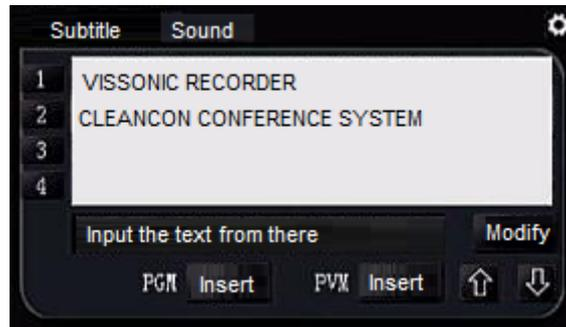

Figure 24 Insert Subtitle
1)Subtitle- As shown in Figure 24, in the top right corner of the subtitles settings , we can firstly edit the text and generate subtitle list, and can pre-set the font capitalization, background color, font color, soft subtitles, hard subtitles and so on. In the subtitle list, select the subtitles to be released, click "PVW Insert", you can publish text to the PVW screen for subtitles preview. When there is no problem, click "PGM Insert" to publish to the PGM Live screen. When the subtitle is inserted into the screen, the button will change to "Cancel". Click on the corresponding "PGM Cancel" and "PVW Cancel" to clear the subtitles from the PGM and PVW. Subtitles Only one line can be displayed on the PGM / PVW, and the subtitles will be replaced with the previously released subtitles.